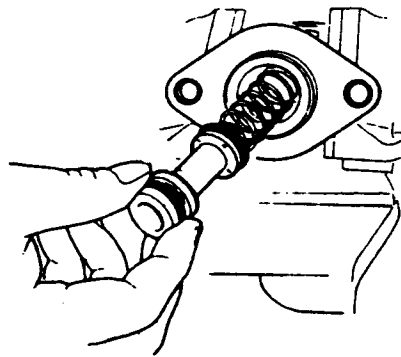

Fig K1.29
- (7) Refer to Fig K1.29. Repeat the lubricating and fitting procedure for the primary plunger assembly and fit the retaining circlip.